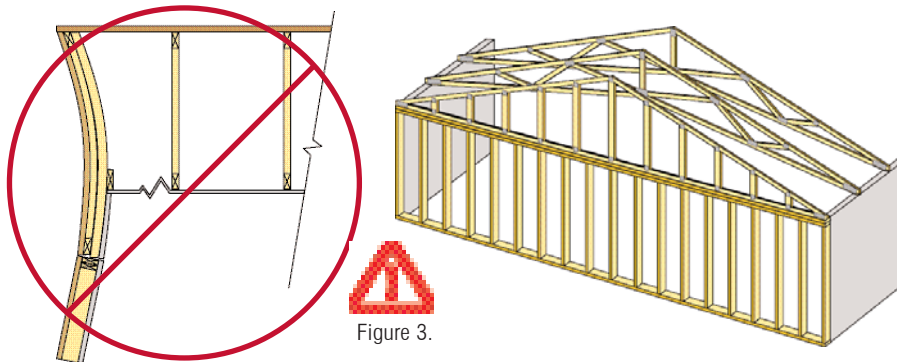

Figure 3.
4. In the field, it is standard practice for carpenters to frame the gable wall top-plate at the same height as the nearby bearing wall top-plate height. Then they install a flat bottom chord gable truss on top of this wall top-plate. Using this framing technique, the gable wall top-plates will not match the ceiling planes of an adjacent scissor or vaulted truss. This will cause a hinge effect under certain wind loads as shown in Figure 3 on page 29.